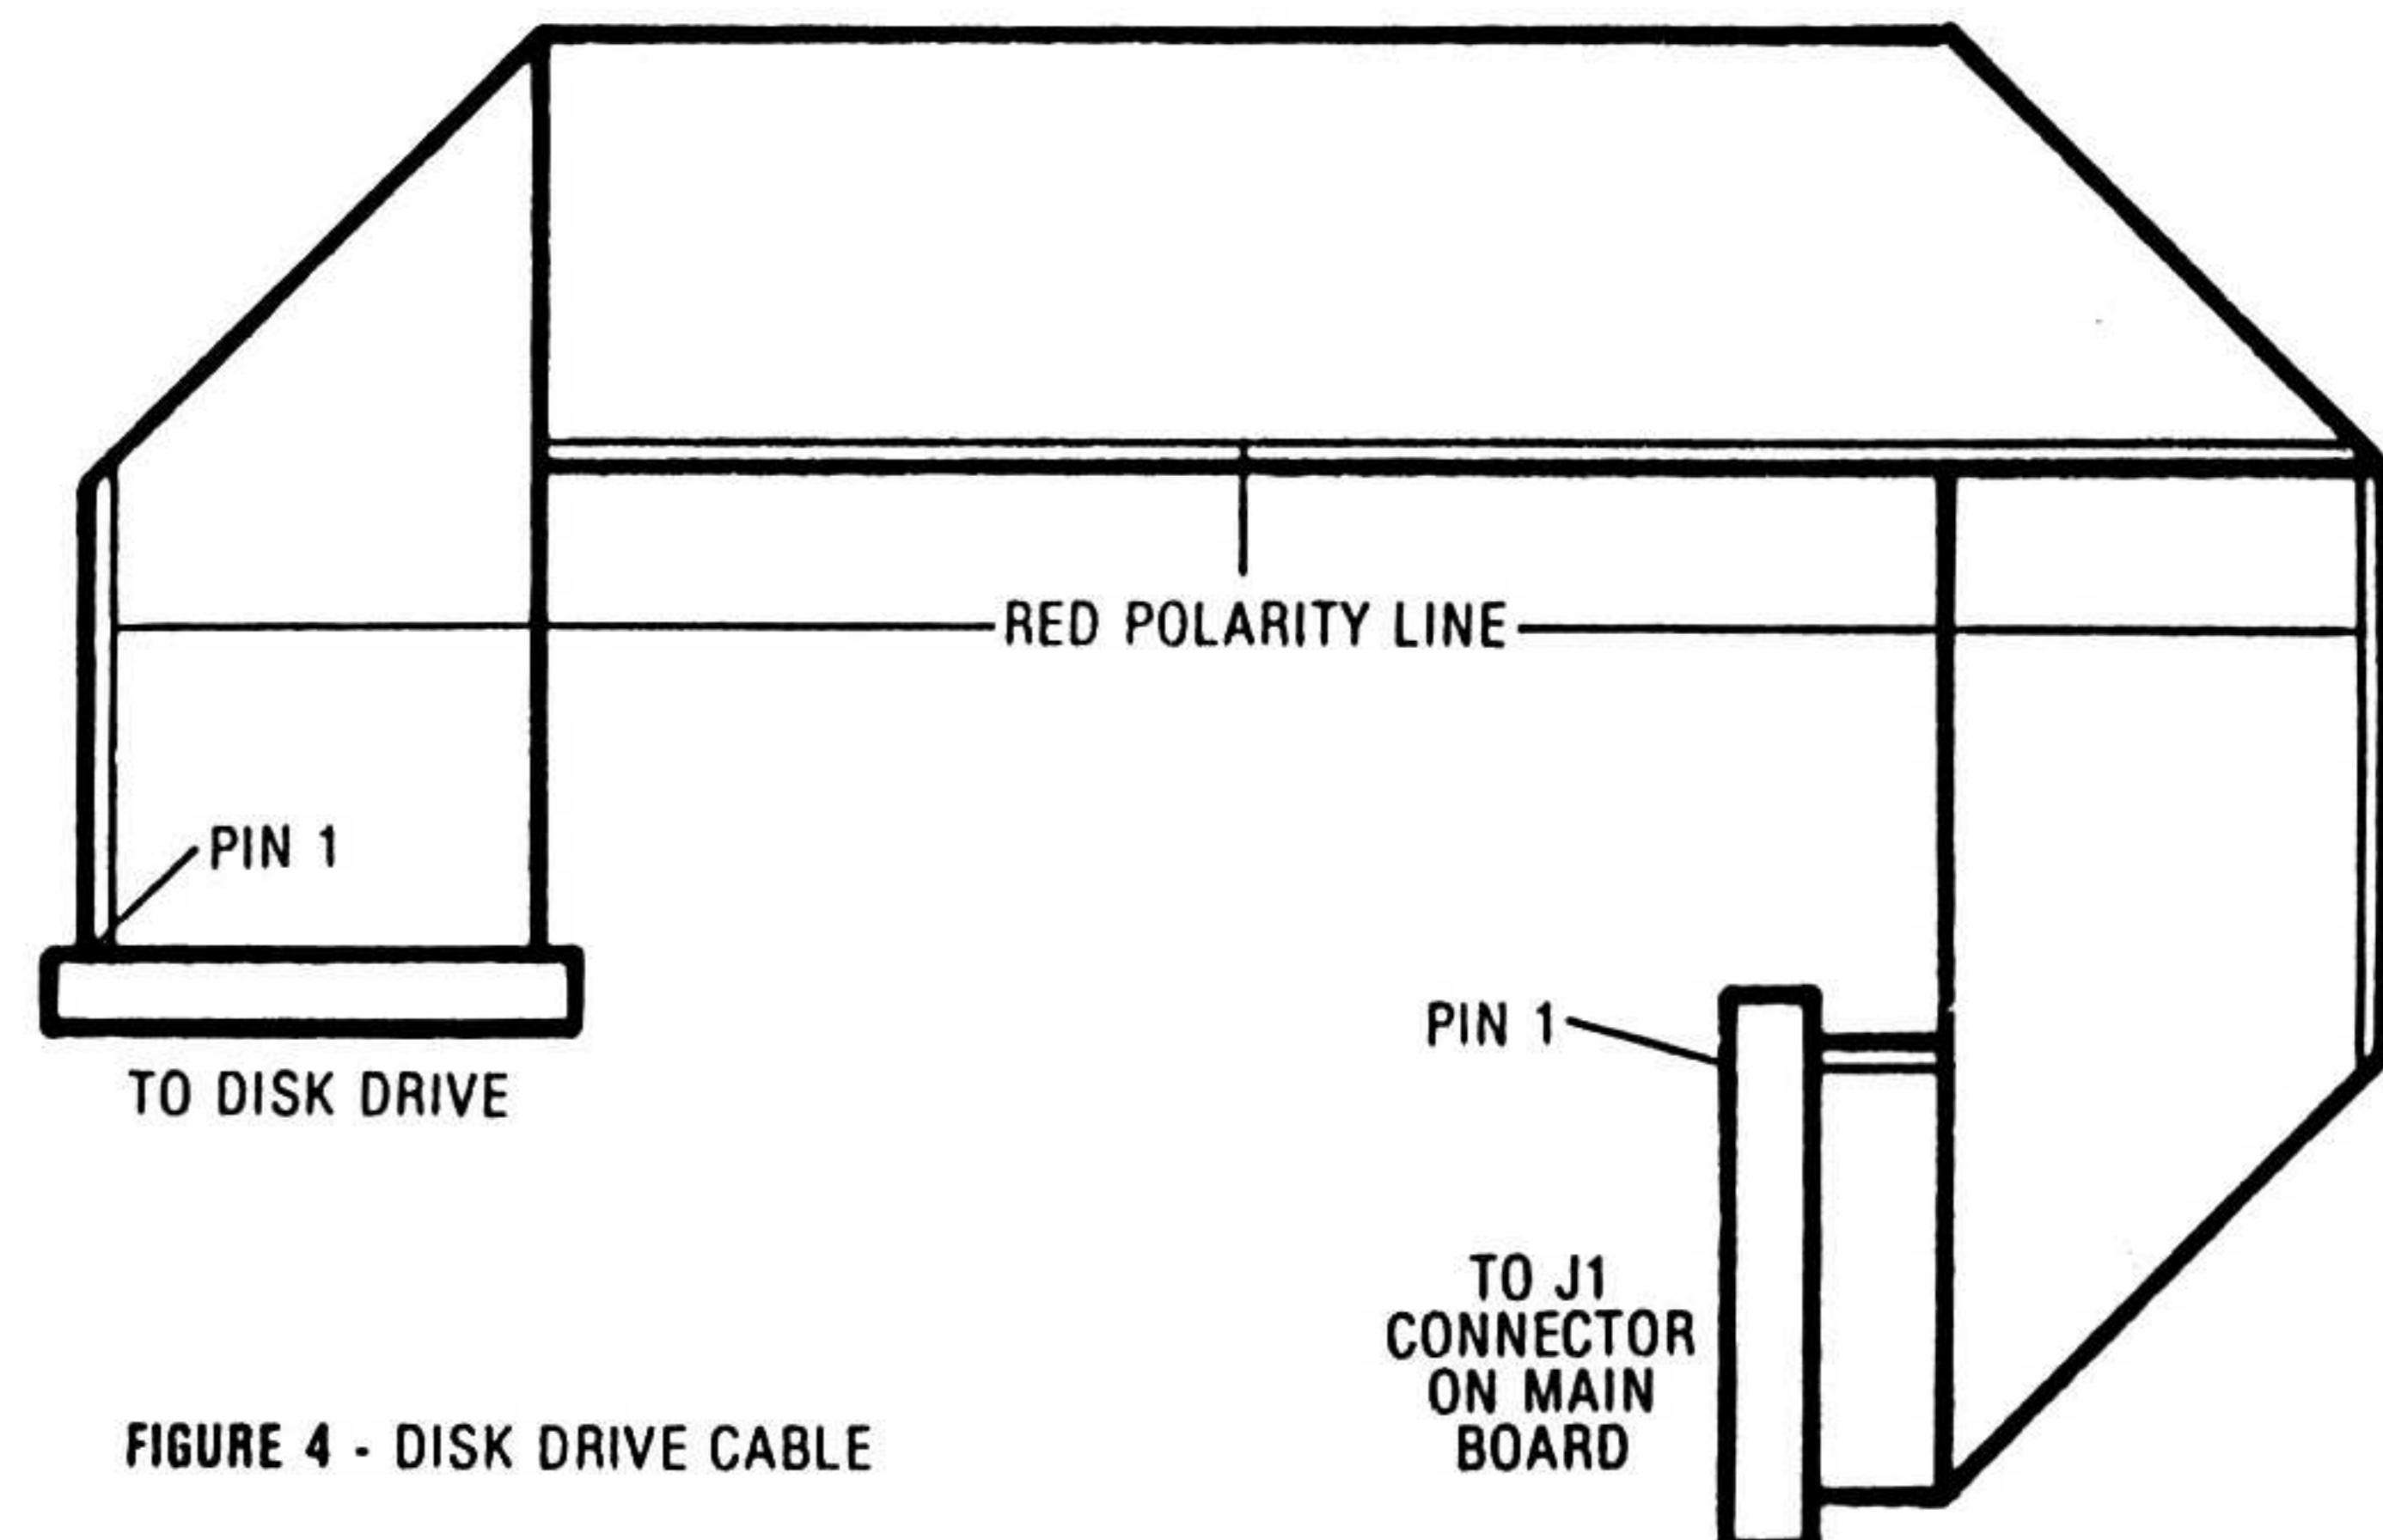

FIGURE 4 - DISK DRIVE CABLE
7. Reconnect the cables. Note that the ribbon cable has pre-formed bends. Refer to Figure 4 to make sure that the cable is properly routed in the case.